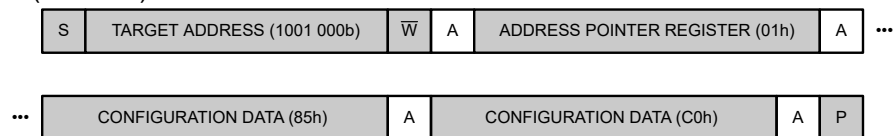
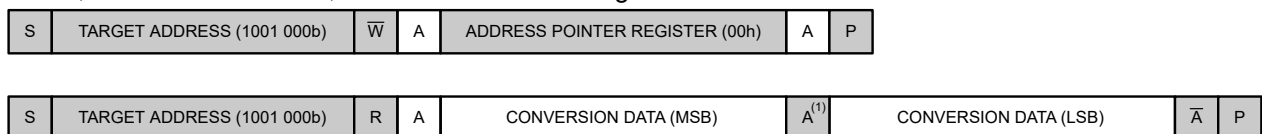
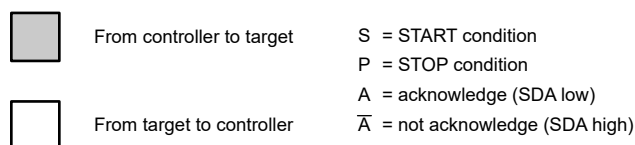

Figure 10-5. Write the Configuration Register
Figure 10-7. Read the Conversion Register
Figure 10-8. Legend for the I²C Sequence Diagrams
- Then, as shown in Figure 10-7, read the Conversion register.
To save time, a new conversion can also be started (step 4) before reading the conversion result (step 3). Figure 10-8 lists a legend for Figure 10-5 to Figure 10-7.